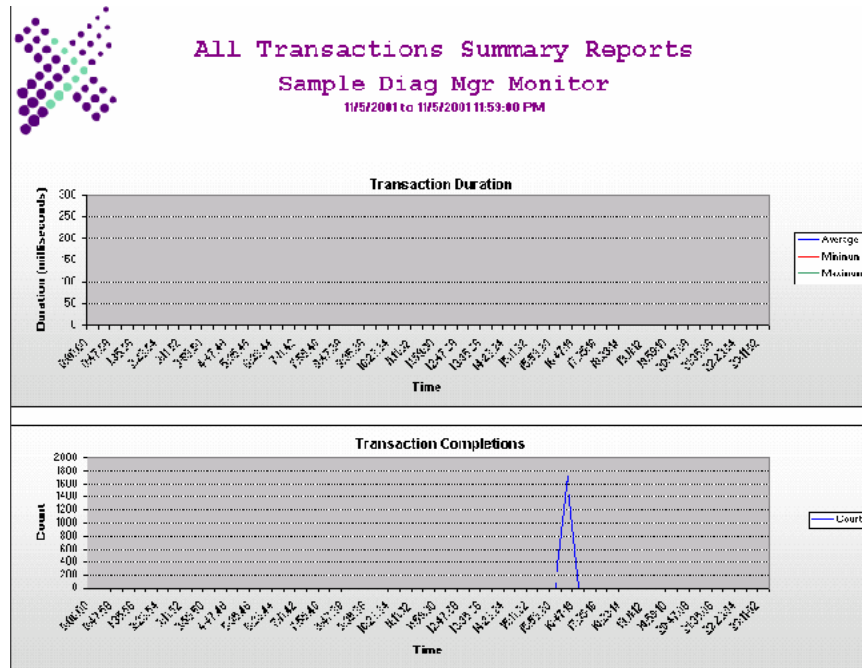

Figure 19
10. The next report to view is the **All Transactions Report** (see Figure 19).